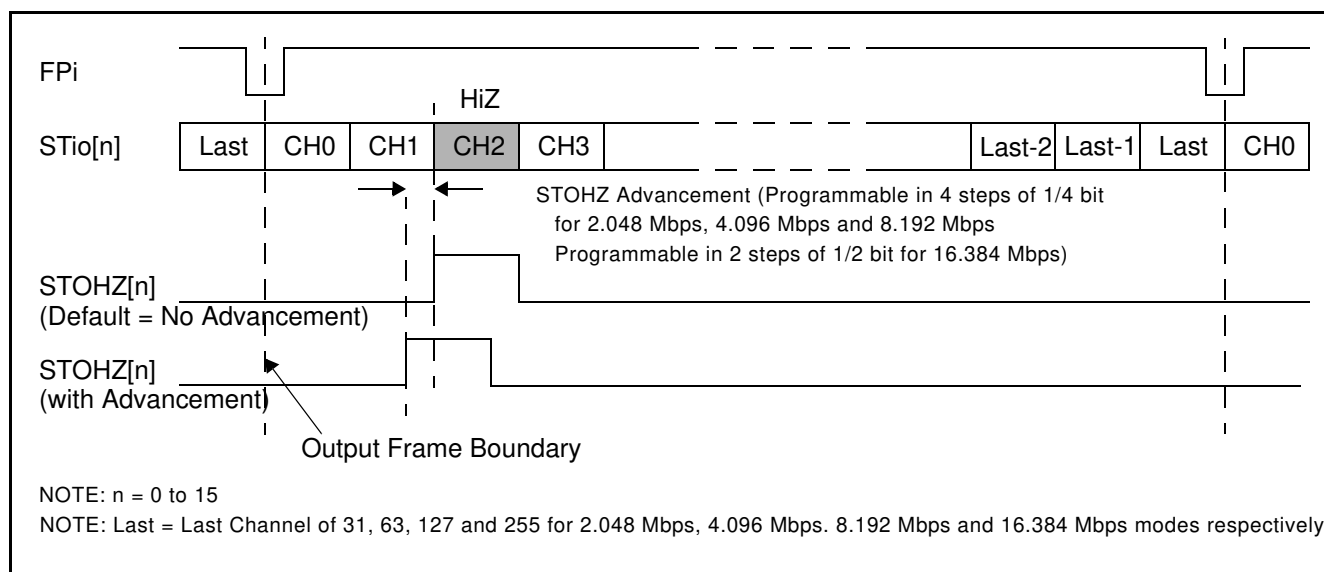

Figure 18 - Channel Switching External High Impedance Control Timing
There are 16 external high impedance control signals, STOHz0 - 15, that are used to control the external drivers for per-channel high impedance operations. Only the first sixteen ST-BUS/GCI-Bus (STio0 - 15) outputs are provided with corresponding STOHz signals. The STOHz outputs deliver the appropriate number of control timeslot channels based on the output stream data rate. Each control timeslot lasts for one channel time. When the ODE pin is high and the OSB (bit 2) of the Control Register (CR) is also high, STOHz0 - 15 are enabled. When the ODE pin, OSB (bit 2) of the Control Register (CR) or the $\overline{\text{RESET}}$ pin is low, STOHz0 - 15 are driven high, together with all the ST-BUS/GCI-Bus outputs being tristated. Under normal operation, the corresponding STOHz outputs of any unused ST-BUS/GCI-Bus channel (high impedance) are driven high. Refer to Figure 18 on page 34.